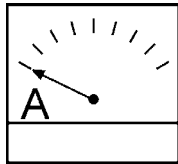

Figure 41. Ammeter (No Load)
6. The ammeter (Figure 41) will indicate **zero amps** with no load applied. When a load is applied, the ammeter will indicate the amount of current that the load is drawing from the generator.